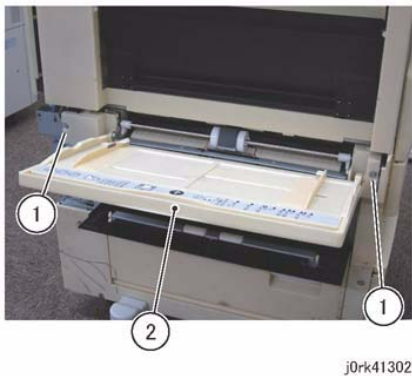

Figure 3 MSI Unit Removal
6. Remove the MSI Unit. (Figure 3)